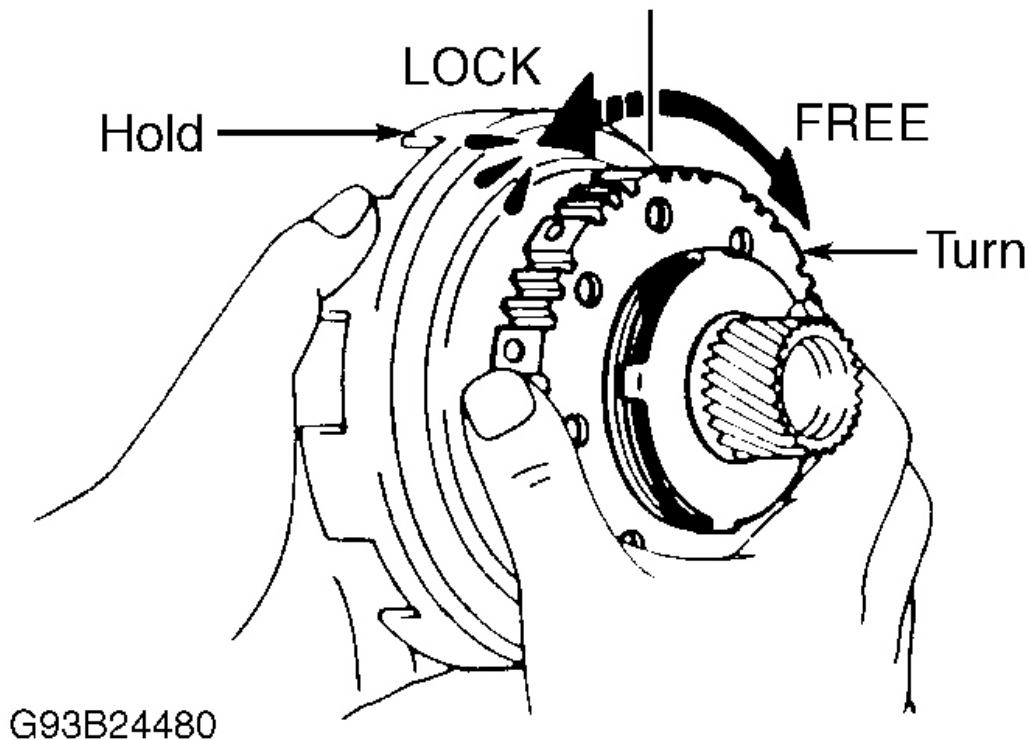

Fig. 21: Checking No. 1 One-Way Clutch
1. Check No. 1 one-way clutch operation. Hold sun gear and rotate hub. Hub should rotate freely in clockwise direction and lock when rotated in counterclockwise direction. See **Fig. 21** . Turn hub clockwise and remove 2nd brake hub and one-way clutch from sun gear.